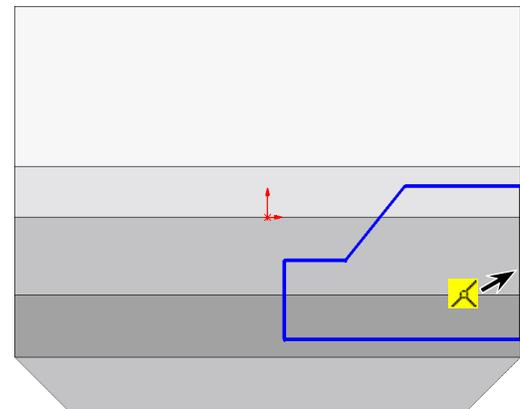

Fig. 19
Step 5. **Starting on the right edge of part sketch the 6 lines**, **Fig. 19**.